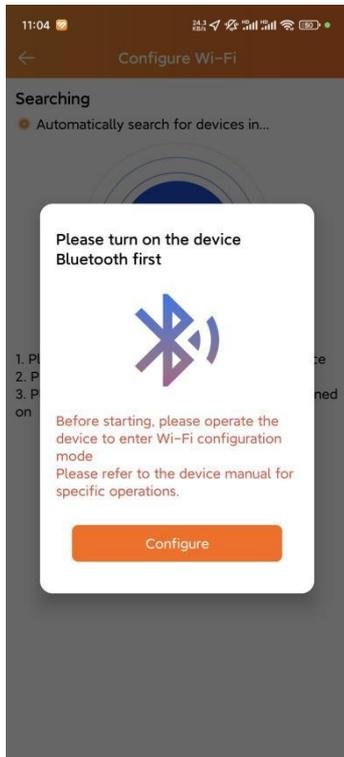
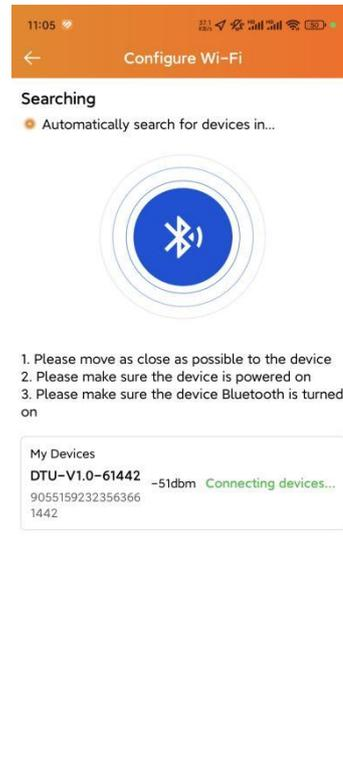

Fig.6 Prompt to turn on the Bluetooth of the mobile phone
Fig.7 Display device information
3. Turn on the Bluetooth of your mobile phone according to the APP prompt, and click "Configure" (as shown in Figure 6). After the mobile phone detects the device's Bluetooth, the device information will be displayed (as shown in Figure 7).